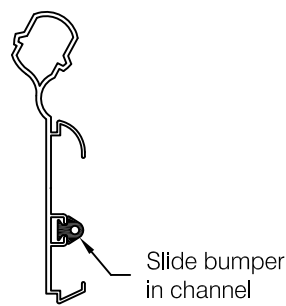

fig 4
Step 6: Cut flexible cushion short enough to comfortably fit between molded accessories. Slide cushion into receptacle on aluminum retainer, see **fig 4**.